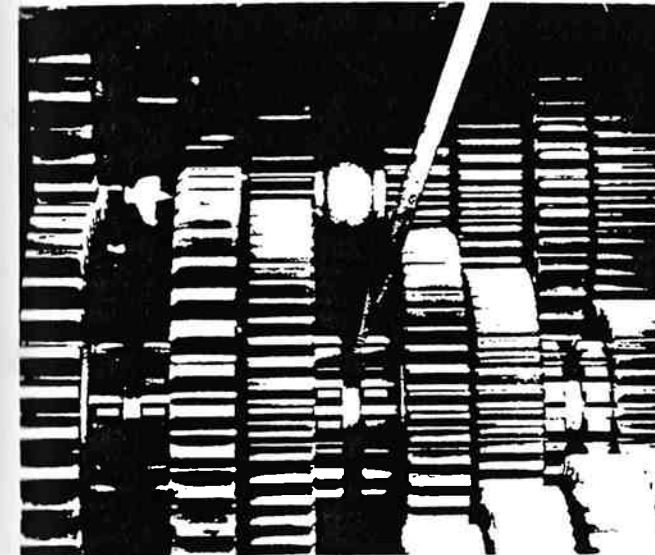

Figure 13-179. Positioning Sliding Clutches.
1. Place all three of the sliding clutches in transmission in the neutral position (figure 13-179).